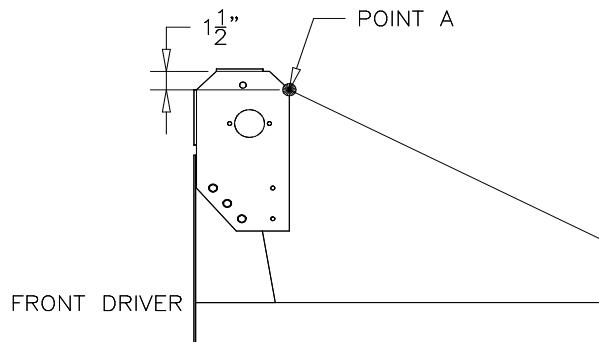
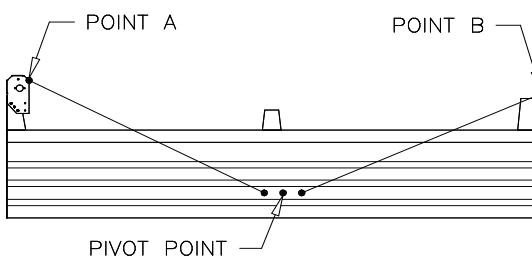
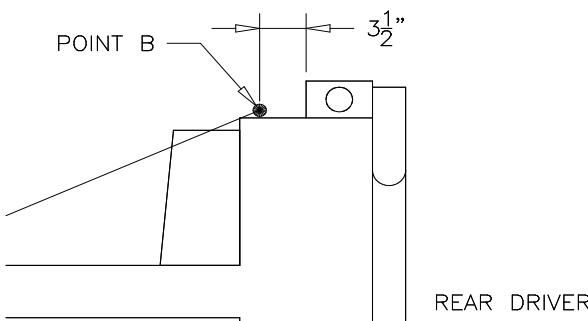

Figure 8
Figure 9
Figure 10
Procedure: Measure from Point A (see Figure 8) to a point on the lower inside rib of the box that is close to the pivot point (see Figure 9). Mark this point and record the distance as X. Using distance X, measure from Point B (see Figure 10) to a point on the lower inside rib of the box (see Figure 9). Mark this point.
Divide the distance between the first and second mark by two and mark this point as the pivot point (see Figure 9).
Slide the rear pivot arm crossmember (F) through the rear tarp pocket. Position the rear pivot arm crossmember at Point B (see Figure 10 & 14).
Adjust the rear pivot arm crossmember (F) and the top pivot arms (G) so they are at Point B (see Figure 10 & 14).